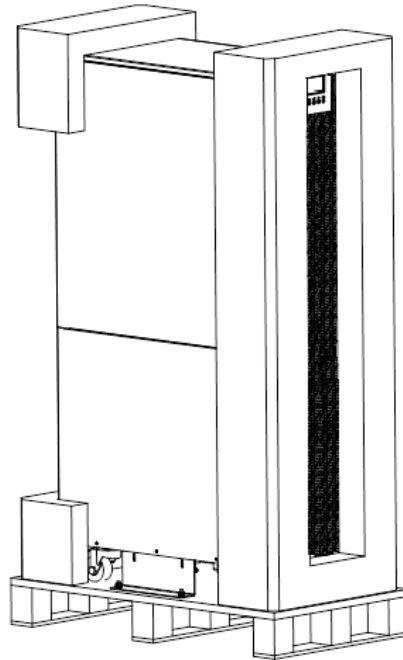

Fig.2-5 Disassemble the case
3. Unpack the package (see Fig.2-5).